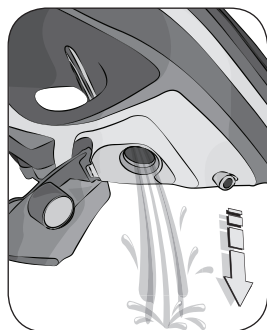

Fig. 6
- 1 Set the temperature control knob (J) to "min".
- 4 Empty the tank: open the water filling cover (B), reverse the iron and let the water drain (Fig. 6).